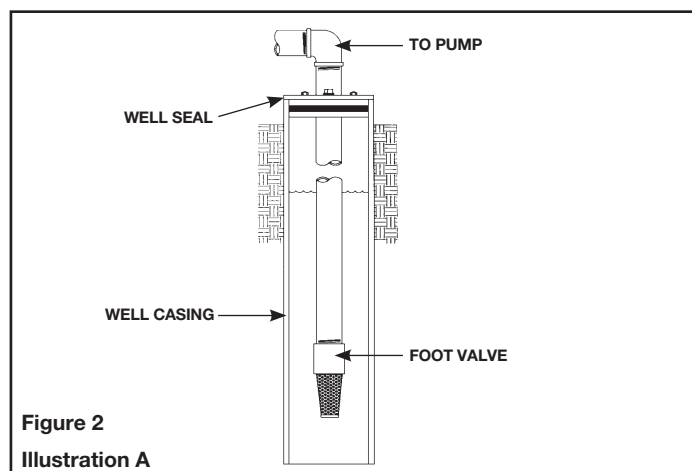

Figure 2
A shallow well pump can be used when the pump is located less than 25 feet vertically of the water level. Shallow well pumps have only one pipe between the pump and the water supply (Figure 2).
1. Install a foot valve on the first section of pipe (Figure 2, Illustration A).